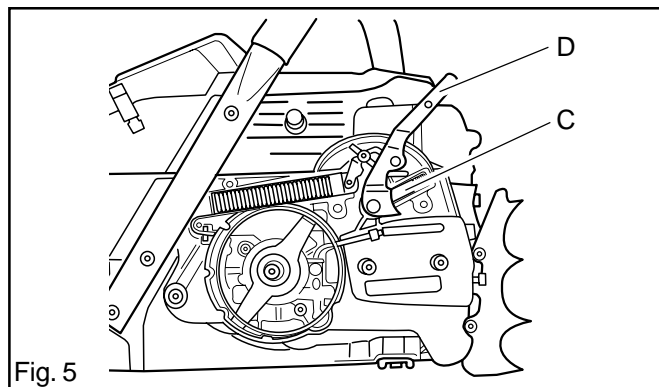

Fig. 5
8. Press down the retaining bush (C fig. 5) while releasing the lever (D fig. 5) with a screwdriver.
12. Take out the retaining bush (C) with spring. See fig. 5.
3. Grease and fit the lever (D). See fig. 5.
4. Grease and fit the retaining bush (C) with spring. See fig. 5.